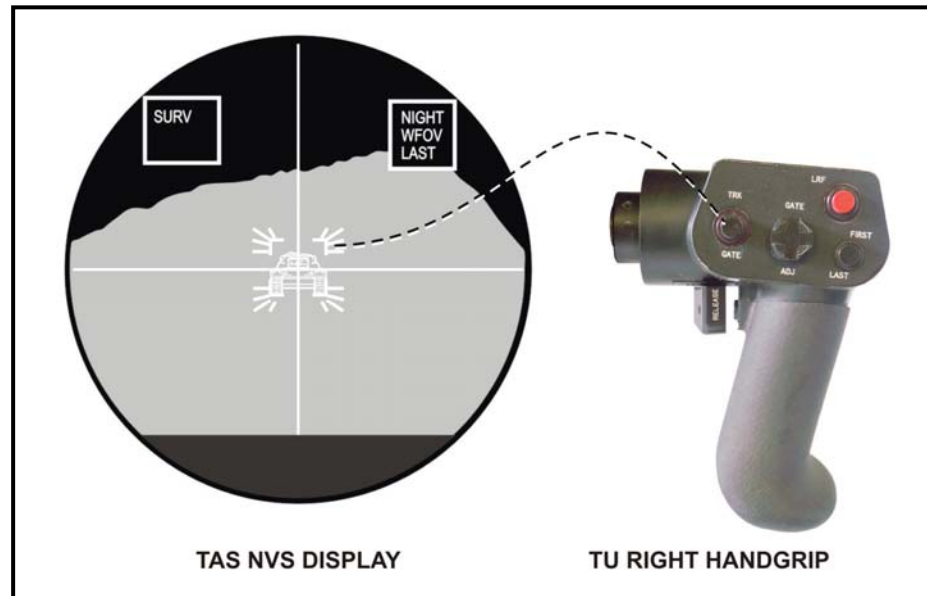
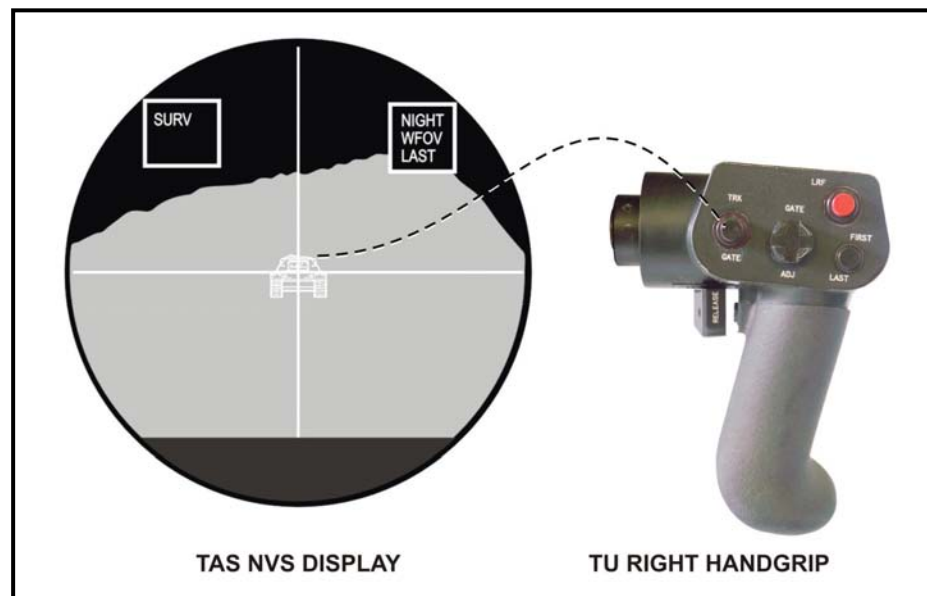

Figure 2-13. TRK GATE switch and TAS display (flashing track gates).
Figure 2-14. TRK GATE switch and TAS indicator (solid track gates).
(1) **Track Gate (TRK GATE) Switch.** The TRK GATE switch is a three-function button that, when first pressed, activates the track gates (flashing) around a target centered in the crosshairs (Figure 2-13). After adjusting the track gates around the target with the gate adjustment (GATE ADJ) switch, the TRK GATE switch is pressed a second time to lock the track gates on the target (Figure 2-14). If the TRK GATE switch is pressed after lock-on and the crosshairs are within the track gates, the track gates will be removed.